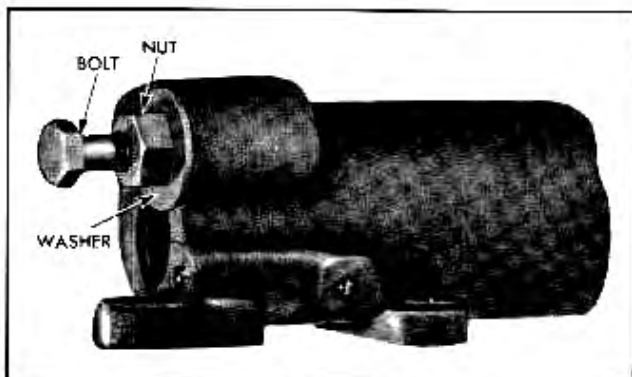

Fig. 9-40 Removing Connector
2. Remove connectors by using bolt threaded into tapped holes with washer and nut as extractor. (Fig. 9-40)